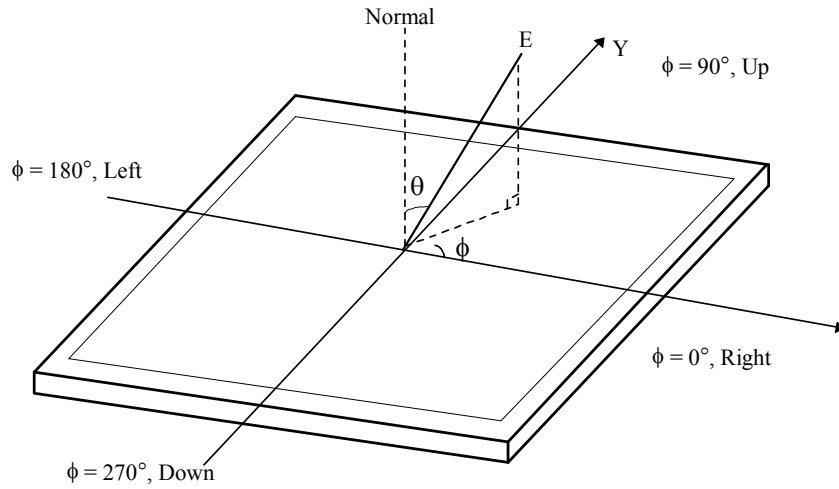

FIG. 4 Viewing angle
5. Color shift is the angle at which the average color difference for all Macbeth is lower than 0.02. For more information see FIG 3 and FIG 4. **(By EZ Contrast)**
6. Viewing angle is the angle at which the contrast ratio is greater than 10. The angles are determined for the horizontal or x axis and the vertical or y axis with respect to the z axis which is normal to the LCD surface. For more information see FIG 4. **(By PR880)**